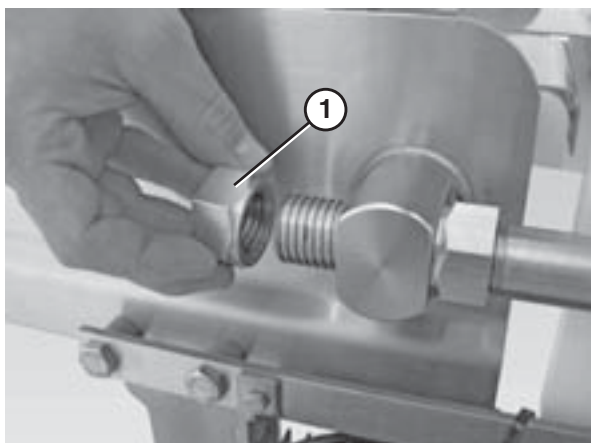

**Figure 68**
6. Remove the nose bar return spindle (Figure 68, item 1).